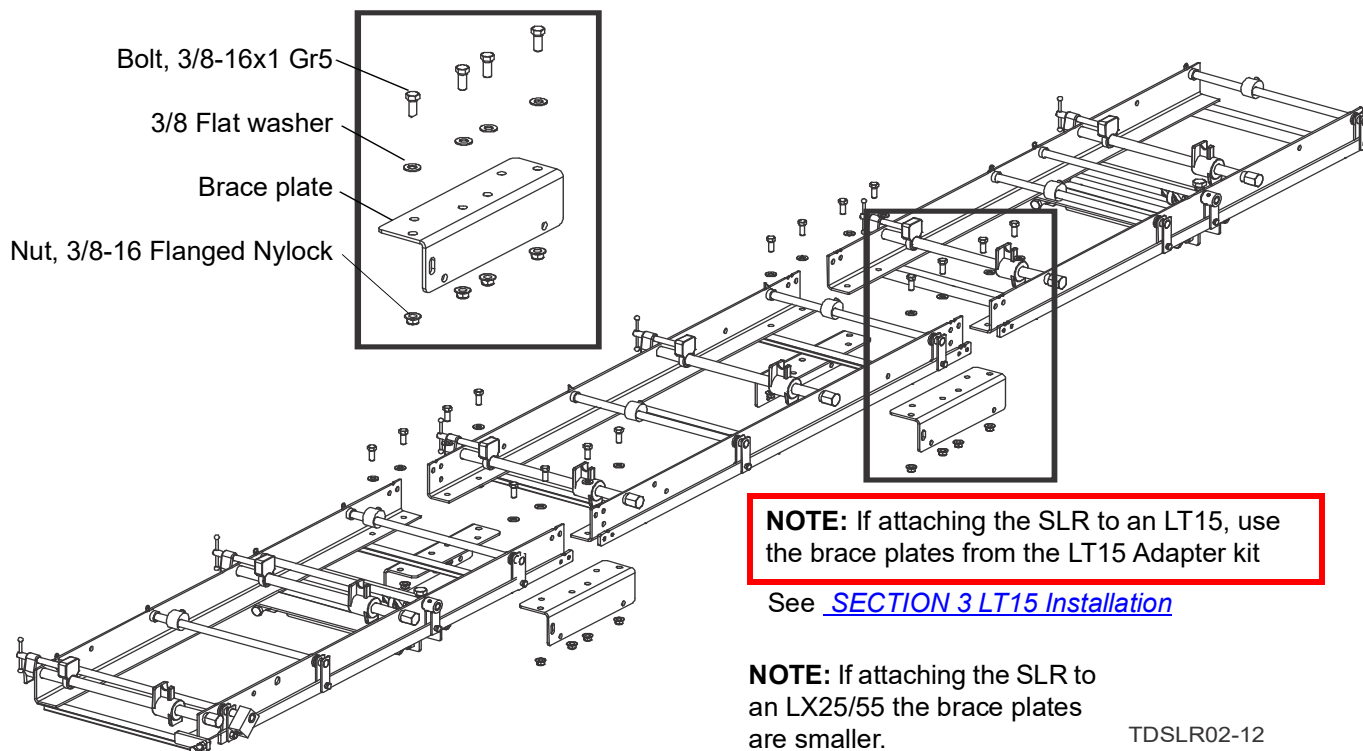

FIG. 2-2
2. Lay out the frames as shown in FIG.2-2 to attach plates as shown in FIGs. 2-2 and 2-3